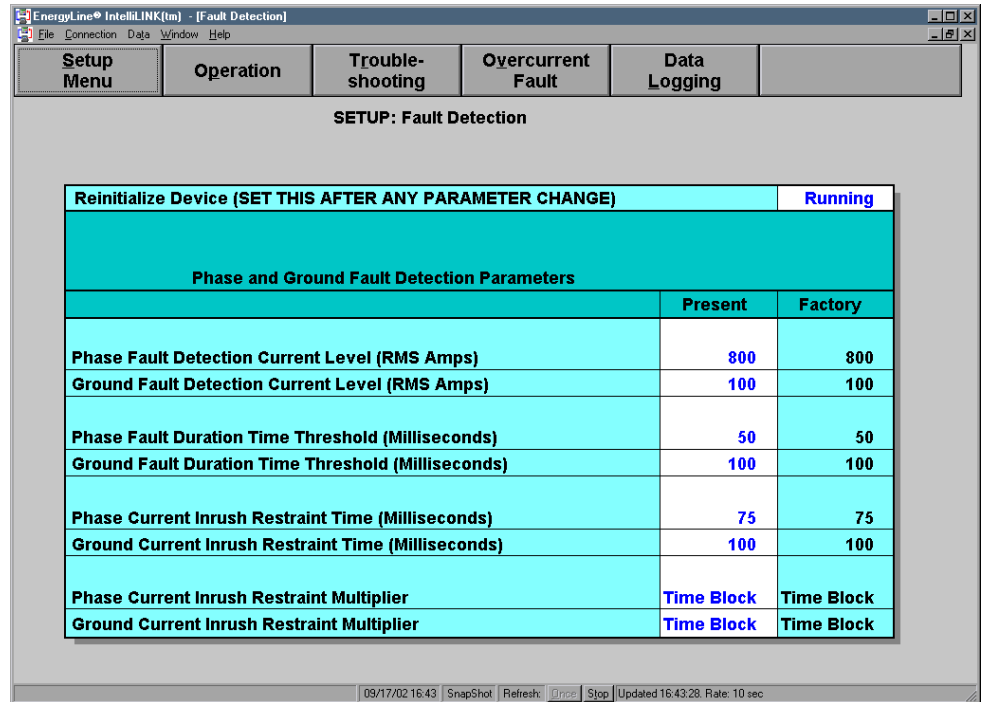

Figure 10. The *Setup>Fault Detection* screen.
STEP 6. At the *Setup Menu* screen, click on the **Fault Detection** button to display the *Setup>Fault Detection* screen. See Figure 10. Enter the correct values for this switch control.
The screen shown in Figure 10 configures the setpoint values the control uses to detect phase and ground faults. It includes the following fields: